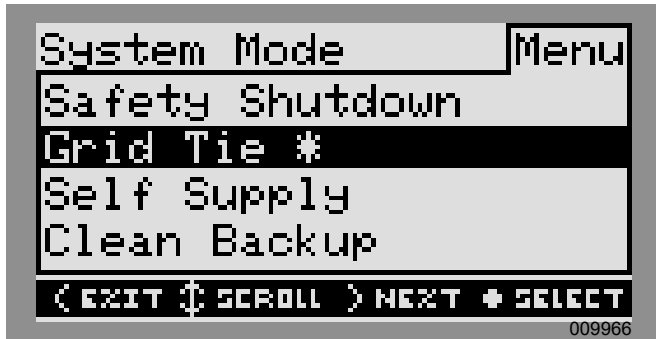

Figure 6-3. Selecting Operational Modes (2 of 4)
- See **Figure 6-3**. A list of operational modes will be displayed with the current mode marked with an asterisk.
NOTE: The list of modes may not include all those shown in **Figure 6-3**.